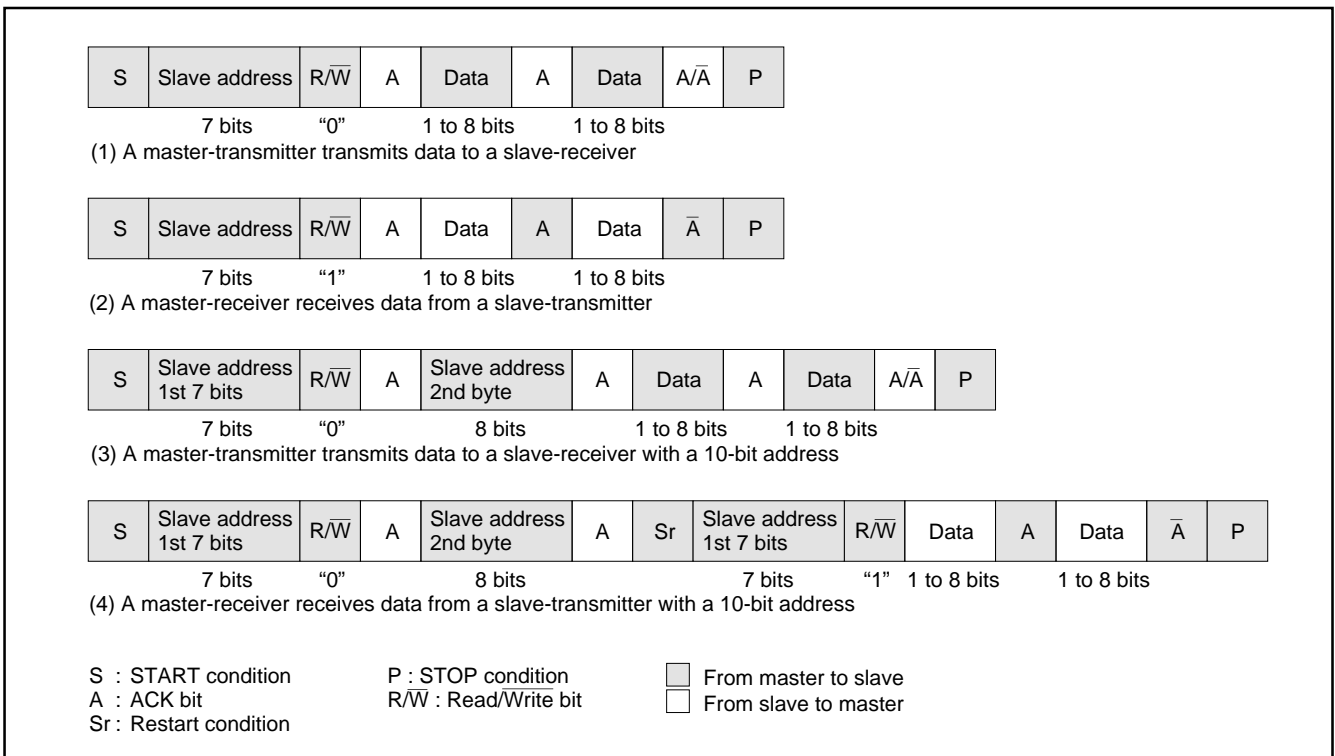

Fig. 22. Address data communication format
To meet the 7-bit addressing format, set the 10BIT SAD bit of the I2C control register (address 00DA16) to "0." The first 7-bit address data transmitted from the master is compared with the high-order 7-bit slave address stored in the I2C address register (address 00D816). At the time of this comparison, address comparison of the RBW bit of the I2C address register (address 00D816) is not made. For the data transmission format when the 7-bit addressing format is selected, refer to Figure 22, (1) and (2).
When the first-byte address data matches the slave address, the AAS bit of the I2C status register (address 00D916) is set to "1." After the second-byte address data is stored into the I2C data shift register (address 00D716), make an address comparison between the second-byte data and the slave address by software. When the address data of the 2 bytes matches the slave address, set the RBW bit of the I2C address register (address 00D816) to "1" by software. This processing can match the 7-bit slave address and  $\overline{R/W}$  data, which are received after a RESTART condition is detected, with the value of the I2C address register (address 00D816). For the data transmission format when the 10-bit addressing format is selected, refer to Figure 22, (3) and (4).